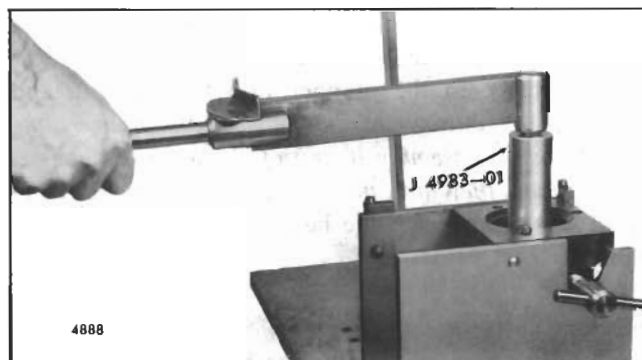

Fig. 40 - Tightening Injector Nut With Torque Wrench
8. Use socket J 4983-01 and a torque wrench to tighten the injector nut to 75-85 lb-ft (102-115 Nm) torque (Fig. 40).